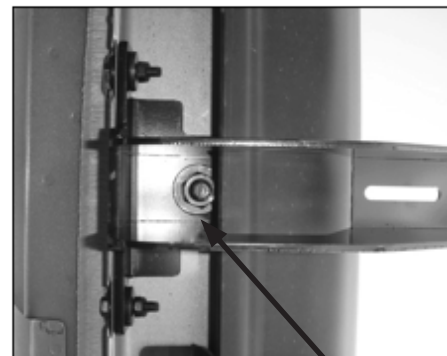

Fig. 6
Select (1) Mounting Bracket and secure it to the Bolt Plate with (1) 12mm Serrated Flange Nut. (Fig. 6) Do not tighten hardware at this time.